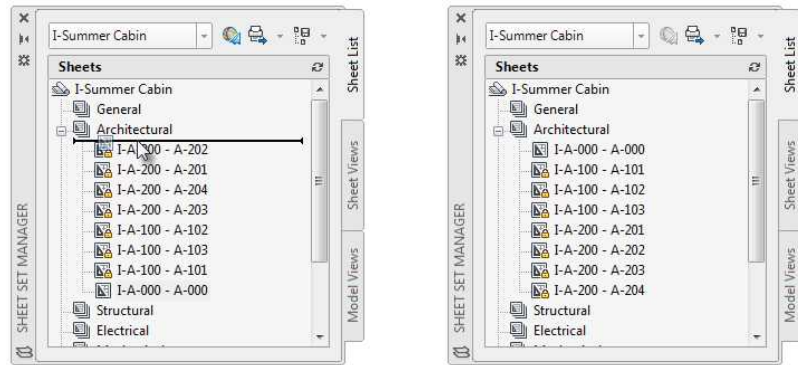

FIGURE 14.38: Reordering a drawing in the Sheet Set Manager sheet list (left), and the final sheet order (right)
on the left in Figure 14.38. This generic name represents the sheet number and sheet title for the layout.
4. Drag and drop the sheets you imported to match the sequential order shown on the right of Figure 14.38.